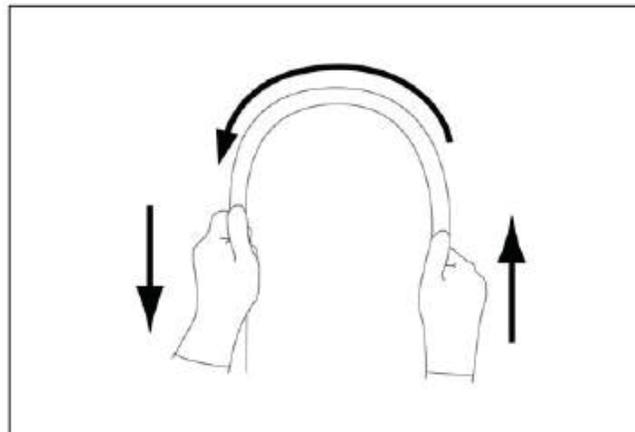

Fig 3.5
7. Using both hands, bend the insertion tube of the endoscope into a semicircle. Then, moving your hands as shown by the arrows, confirm that the entire insertion tube can be smoothly bent to form a semicircle and that the insertion tube is pliable enough (Fig 3.5).